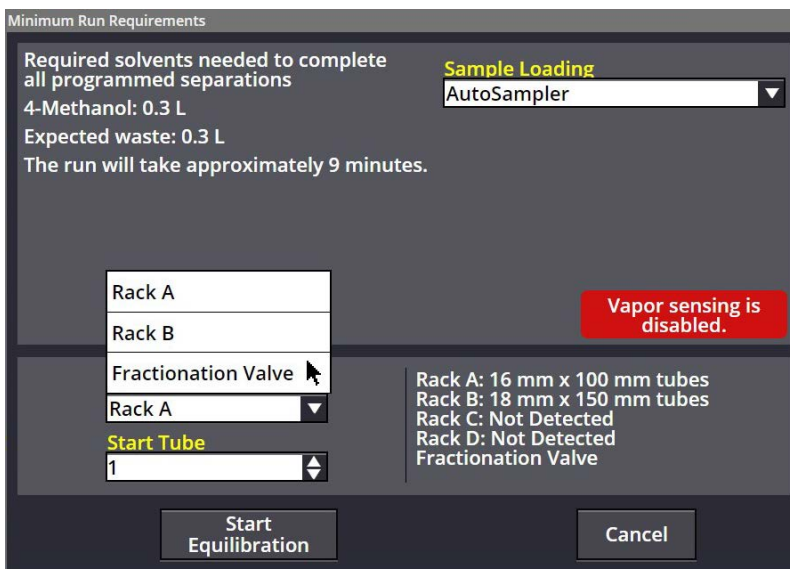

Figure 3-22 The Minimum Run Requirements window
1. On the MINIMUM RUN REQUIREMENTS window, choose the fractionation valve instead of one of the racks (Figure 3-22).